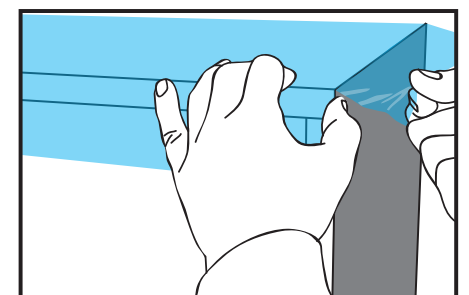

Figure 05
- › Apply the film to one of the table's edges by folding the film edge over the perpendicular angle. (FIG. 05)